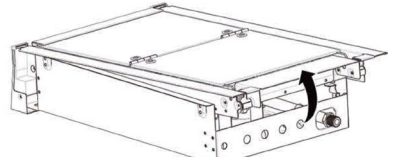

FIG. 1
2. Push back the top glass cover assembly a little and liftup to remove it from the cooktop. (Fig. 1/2)